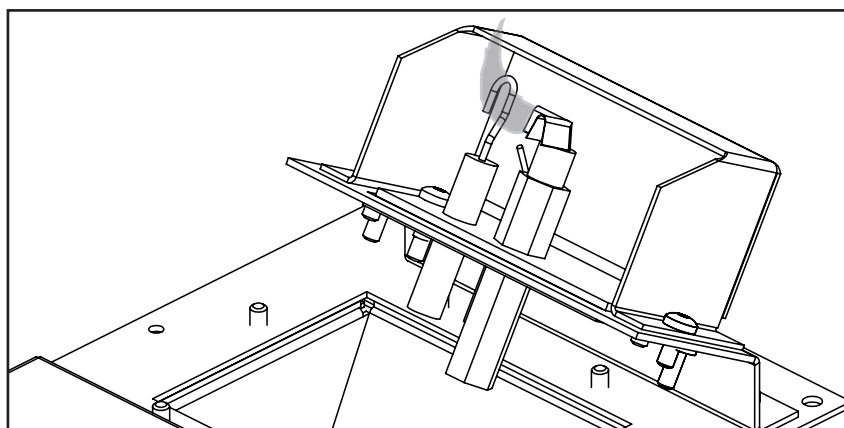

Figure 25: Flame Sensor Coverage
- 12. Relight the pilot and confirm the flame properly covers the flame sensor hook (see Figure 25). Should the pilot require adjustment, turn the adjustment screw clockwise to decrease or counterclockwise to increase until the correct flame is achieved.